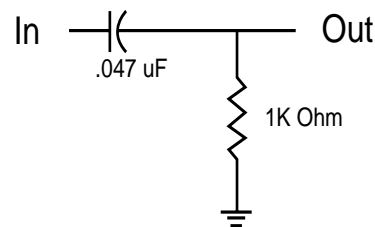

Figure 4. Differentiator Circuit
**Procedure:** Load each channel to 1 Ohm. Inject a 1 kHz differentiated (or 10% duty cycle) square wave. See figure 4. Increase output level until current limit occurs. Current limit should occur at 20  $\pm$ 2 Amps (20 Vpk). Observe clean (no oscillations) current clipping.